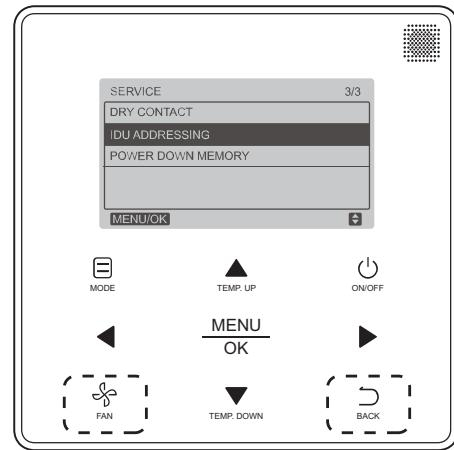

Fig. 28 —Programmable Controller IDU Addressing Menu
1. Press **FAN** and **BACK** simultaneously for five seconds to access parameter settings as shown in Fig. 28.